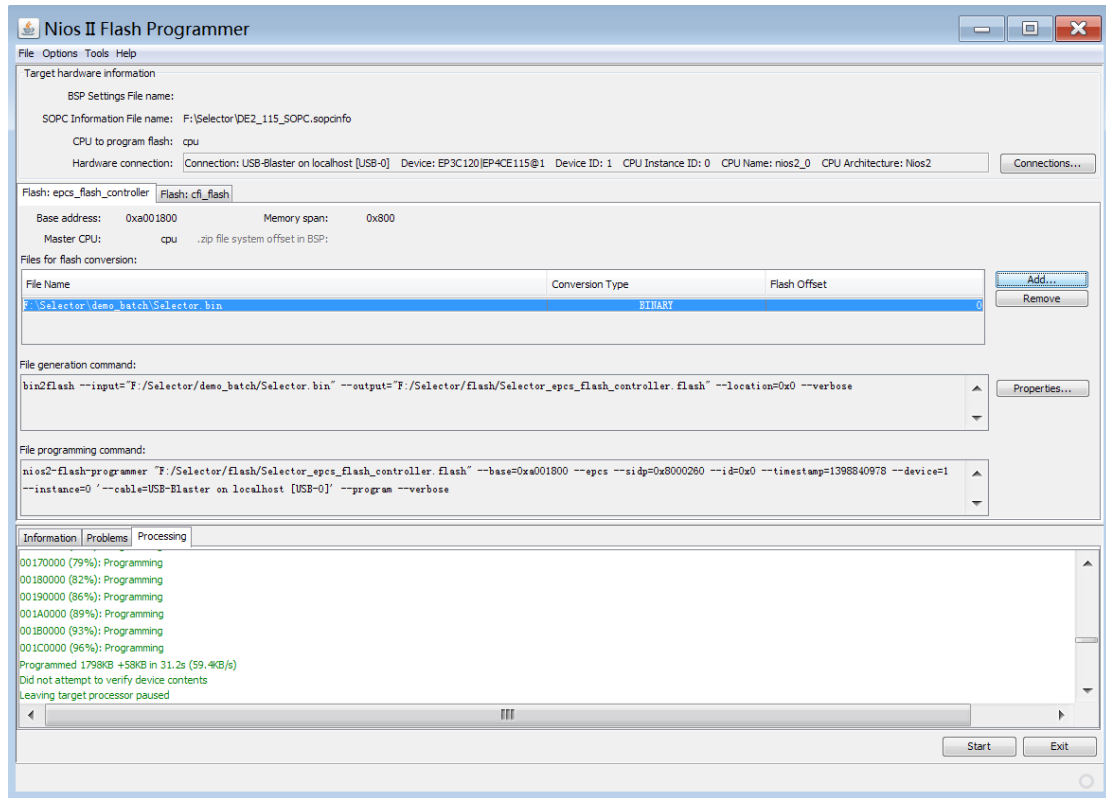

Figure 5-2 Programming Flash settings
- Choose Program a file into memory, choose your Selector.bin file. See Figure 5-2